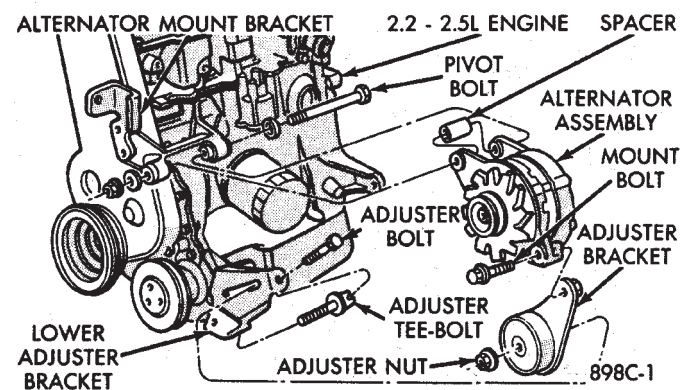

Fig. 3 Remove or Install Mounting Bolts
- (4) Remove the two alternator mounting bolts (Fig. 3) and position the alternator to gain access to all the wire connectors. If equipped with a :